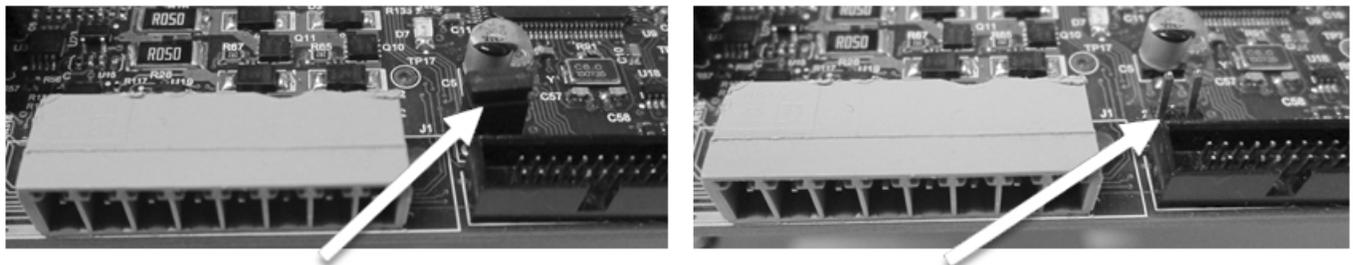

Figure 5. Jumper Cap for Hysteresis & Dual Probe Fault Mode Selection
- For Hysteresis & Dual probe fault mode settings (Figure 5), locate Jumper J17 near to solenoid/ sensor connector (J1), refer to table below for operation details:
Caution The back-up system is designed to inject refrigerant (CO₂ or LN₂). In the unlikely event of both probes failing, the back-up system will operate in PWM or Non-PWM mode based on jumper setting (Figure 5). ▲